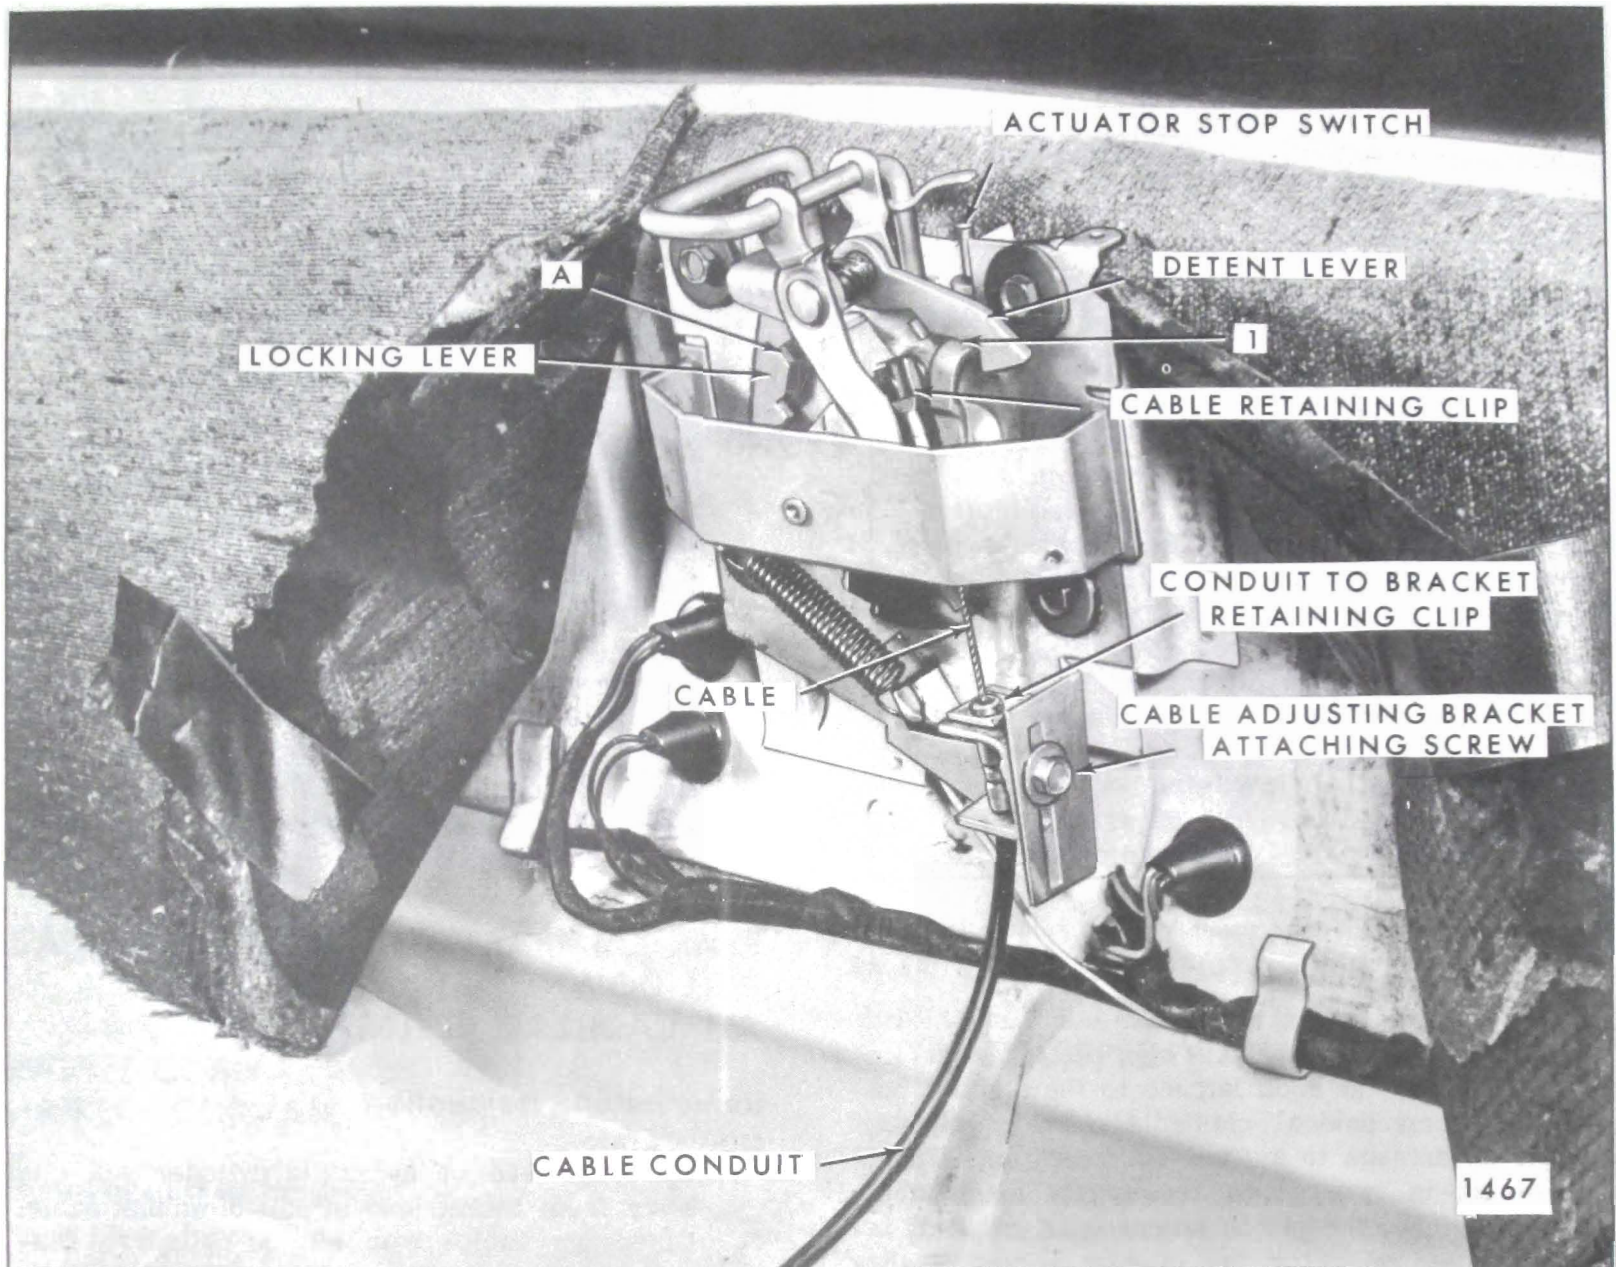
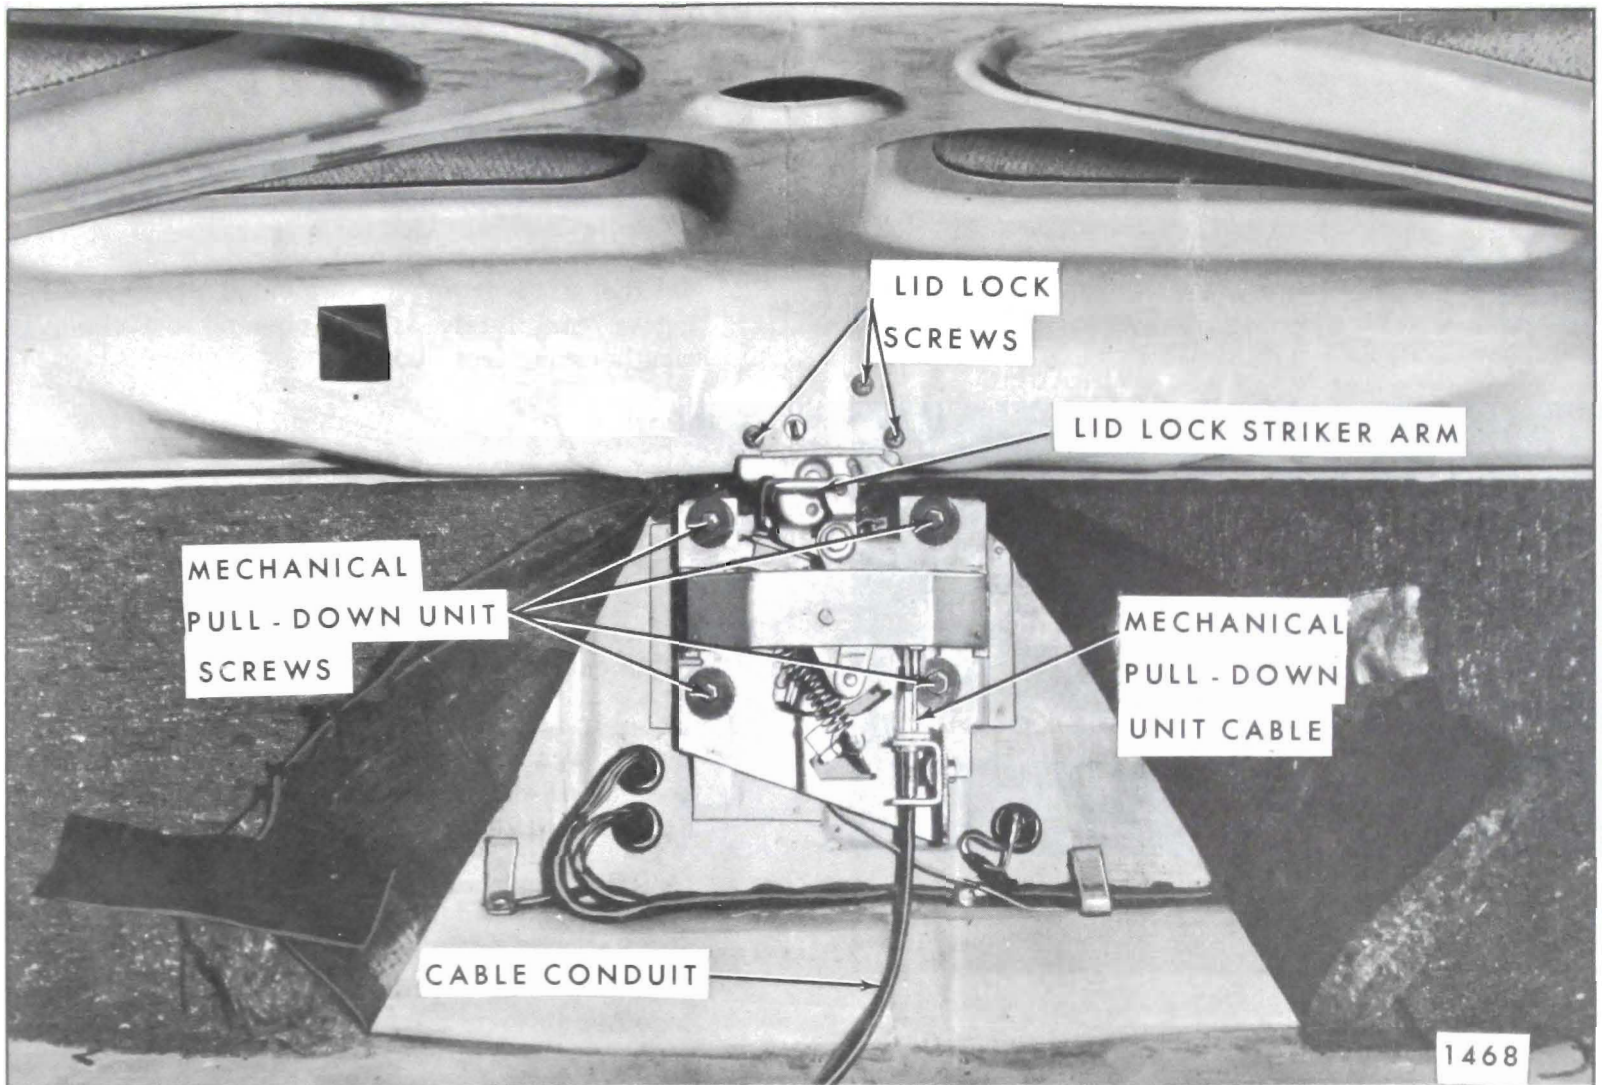
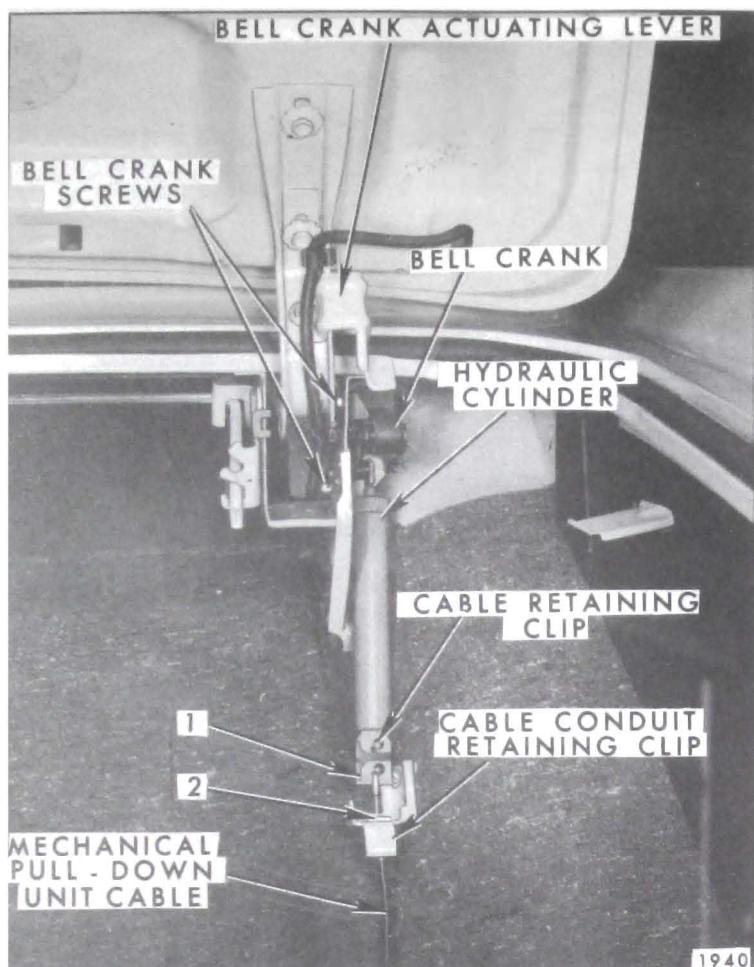

Fig. 9-21—Rear Compartment Lid Mechanical Pull-Down Unit
Fig. 9-22—Rear Compartment Lid Mechanical Pull-Down Unit
Fig. 9-23—Mechanical Pull-Down Unit Hydraulic Cylinder
1. Open rear compartment lid. Remove mechanical pull-down unit cover panel. Depress striker slightly to relieve tension from cable and disengage clip securing cable to pull-down control arm (Fig. 9-21).
2. Disengage clip securing cable conduit to cable adjusting bracket and disengage cable and cable conduit from pull-down unit (Fig. 9-21).
3. Scribe (mark) position of pull-down unit on rear end panel and supports to facilitate re-installing unit in same position. Remove pull-down unit attaching bolts and remove unit from body (Fig. 9-22).
1. On lower end of hydraulic cylinder pull clip away from hooked end of pull-down unit cable. Disengage cable from slot in cylinder. Disengage cable conduit retaining clip from support on wheelhouse and remove cable and conduit from support (Fig. 9-23).
2. Repeat this procedure at other end of cable, disengaging clips securing cable to pull-down unit and cable conduit to adjusting bracket (Fig. 9-21), and remove cable from body.
To increase cable tension, position hydraulic cylinder end of cable in the upper slot on the lower end of the cylinder ("1" in Fig. 9-23). If more tension, or finer adjustment, is required, loosen cable adjusting bracket attaching screw (Fig. 9-21). Adjust bracket downward (to increase cable travel) and tighten attaching screw.
To decrease cable tension, position hydraulic cylinder end of cable in lower slot on hydraulic cylinder ("2" in Fig. 9-22). For finer adjustment, or to lessen tension still more, loosen cable adjusting bracket attaching screw (Fig. 9-21). Adjust bracket upward to desired position and tighten attaching screw.
IMPORTANT: The lack of lubrication between the toggle and the detent lever ("1", Fig. 9-21) can greatly increase the effort required to trip (unlock) the pull-down unit. Therefore, make certain point of contact between these two levers is lubricated with 630 AAW Lubriplate or its equivalent.